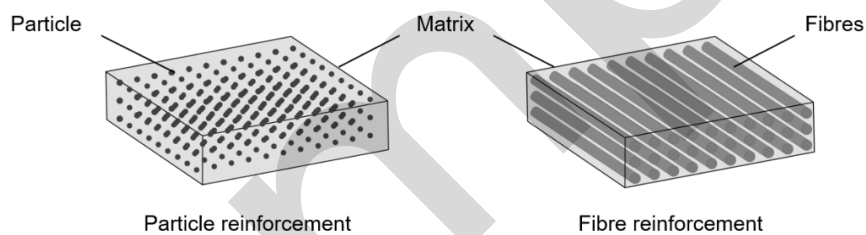

Figure 4.47: Composite materials with different reinforcements.
- The reinforcement is the material embedded in the matrix. The reinforcement material is composed of particles or fibres that are dispersed throughout the matrix (Figure 4.47).